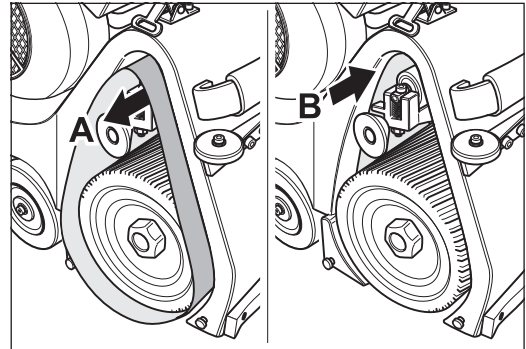
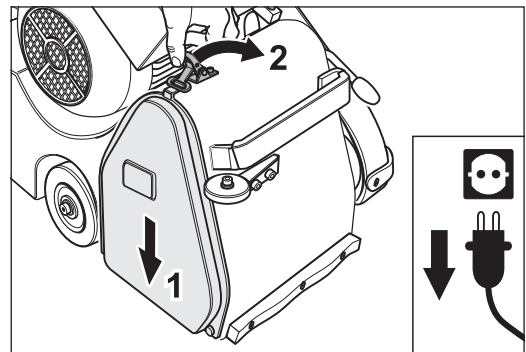

Fig. 78 If the sanding belt runs in direction of **A** or **B**, the setting of the sanding belt regulation is necessary.
Fig. 79 Mount the side cover.
- 5 If the sanding belt runs to the front (towards **A** in fig. 78) or to the back (towards **B** in fig. 78) the setting of the sanding belt regulation is necessary (→ *Section 7.3.2, Setting the sanding belt tracking*). If the sanding belt tracking is alright, mount the side cover (fig. 79).
If the sanding belt is running out of true (in direction of **A** or **B** in fig. 78), it must be turned around and another test performed.
If the sanding belt runs to the front (in direction of **A** in fig. 78) and after turning over runs to the back (in direction of **B** in fig. 78) or vice versa, the sanding belt is of poor quality and is **not usable** (conical sleeve)!
- 9 After successful setting of the sanding belt tracking mount the side cover (fig. 79).